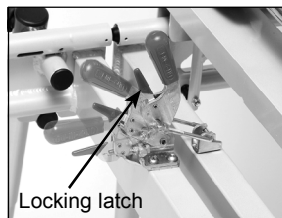

Figure 17
5. Lock the rolling base to the tub base with the center latch before attempting to transfer or slide the rolling base. Loop the tongue from the tub base over the hook receiver on the rolling base. Lock the base to the seating by pulling down on the manual locking handle until the safety lock clicks in place (Fig. 17). The safety lock prevents the seating base from rolling away.